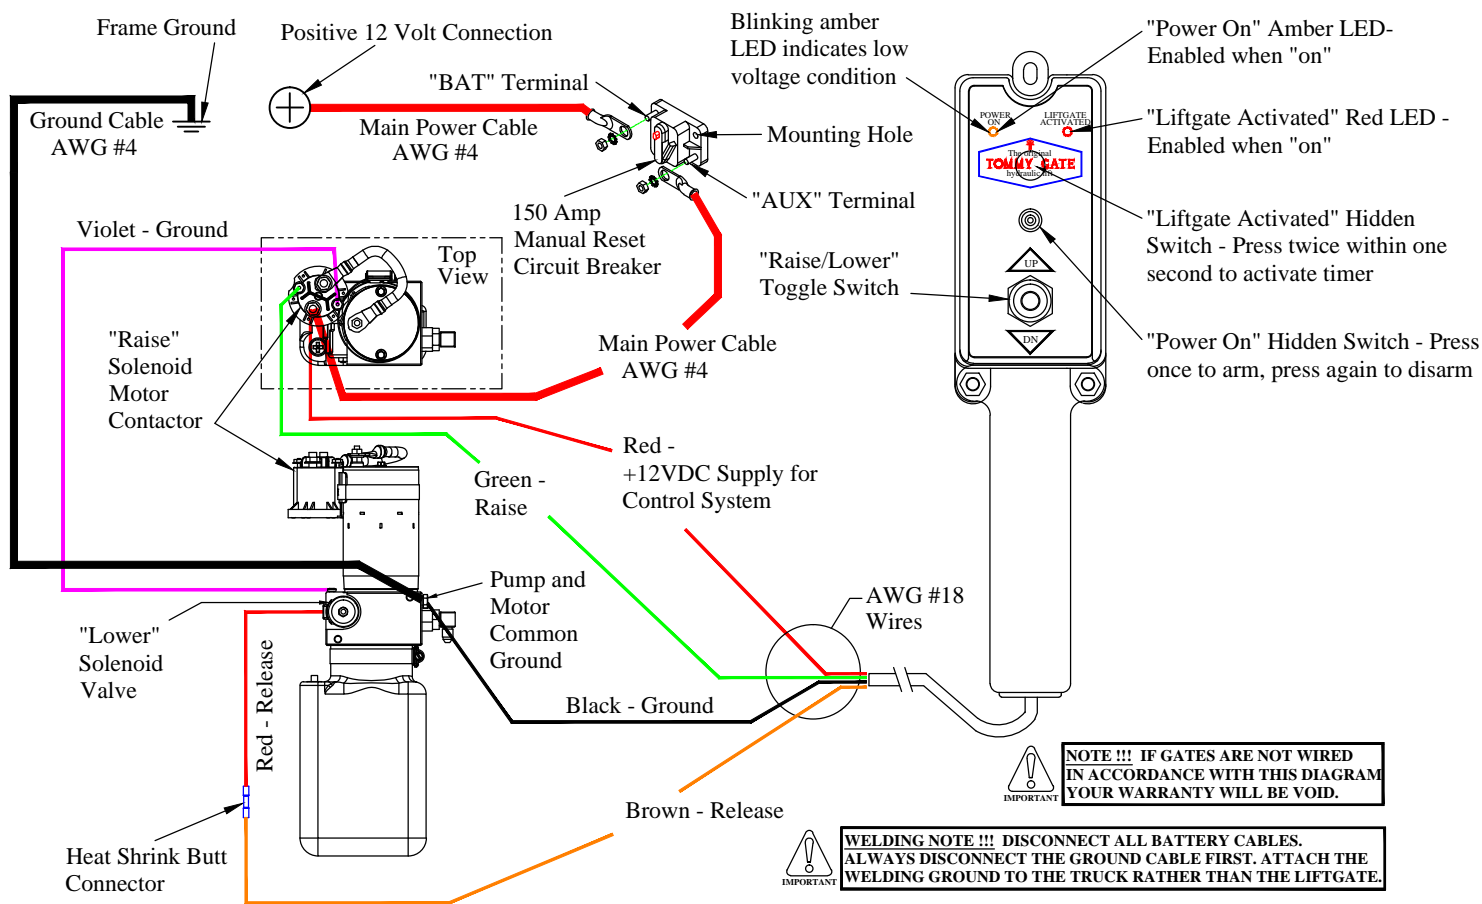

Figure 21: Wiring diagram.
Note: Follow the *Tommy Gate Recommended Electrical Wiring Guidelines* and wiring diagram (Figure 21) in the following steps.
13. **Connect** the circuit breaker (Figure 21). Use the supplied heat shrink tubing.
21. **Connect** the positive(+) lead to the CCP bus bar. Use the supplied 5/16" bolt, lock nut, and two (2) pieces of heat shrink tubing to cover the cable connection to the bus bar.
23. **Push** the hidden "Power On" switch (Figure 21). The amber "Power On" LED will illuminate.